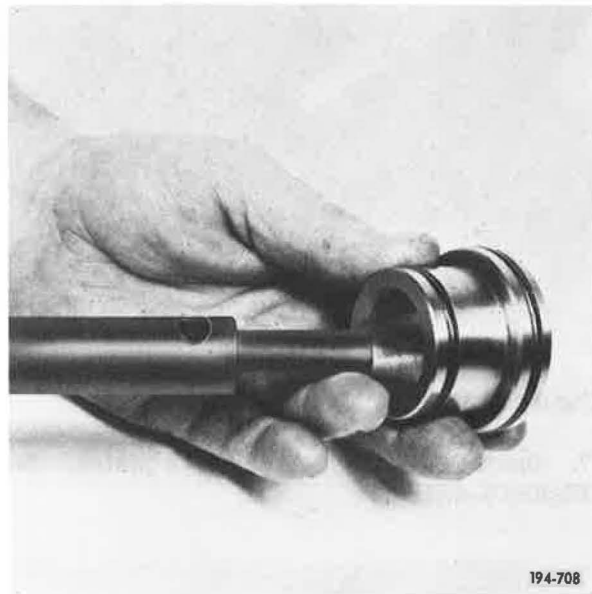

Figure 5-429. Installing Piston
4. Install Direct piston onto Lo/Direct shift rail. See Figure 5-429.